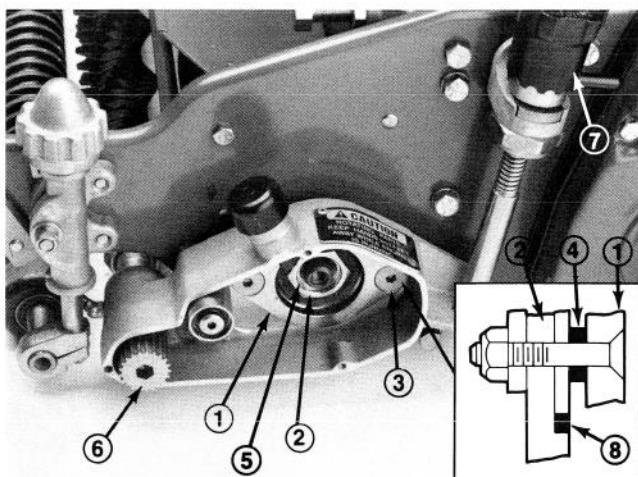

Figure 4
- B. Insert an adapter ring into reel bearing housing. Insert the two 3/8-16 x 2" lg. flat head screws through bearing adapter and position spacers on ends of screws (Fig. 4). Align bearing adapter, spacers and screws with bronze bearing and slots in groomer housing. Slide the bearing adapter through the bronze bearing in the groomer housing assembly and into the reel bearing housing. Install locknuts on flat head screws and torque to 23 to 27 ft-lb.
7. Slide one end of the grooming shaft assembly into the bearing support in the groomer housing assembly (Fig. 4). Mount the driven pulley (left hand thread) to the end of the groomer shaft and torque to 29 to 35 ft-lb, using a 3/8" allen socket on a torque wrench (Fig. 4).
3. Allen head set screws (2)
B. Remove bearing locknut from reel shaft (Fig. 4). Secure the reel from turning with a wood block.